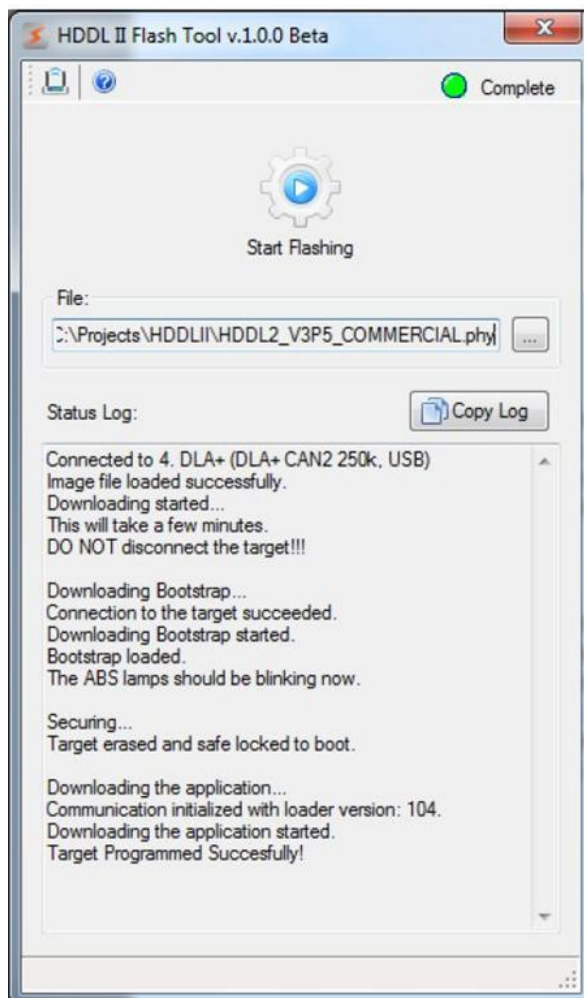

Figure 6 - Process Complete
5. Once the flash process is done, the "Status Indicator" will become steady green, and labeled as "Complete" (See Fig. 6)